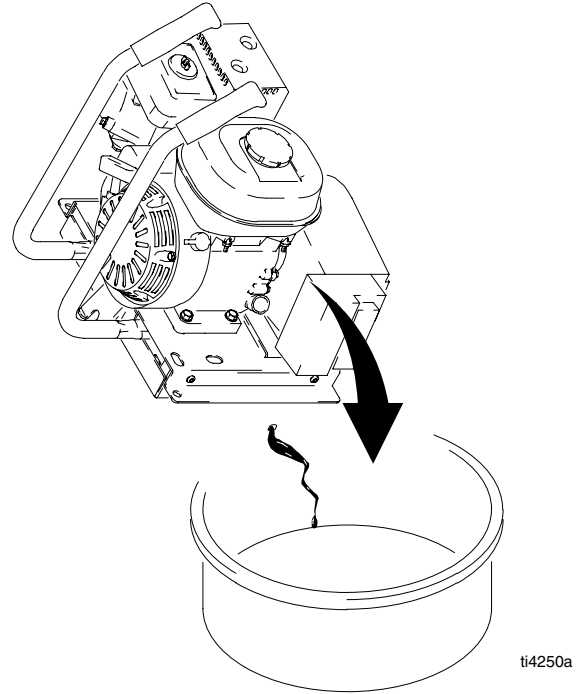

Fig. 9
5. Tip unit to drain the used oil out of unit. Fig. 9. .